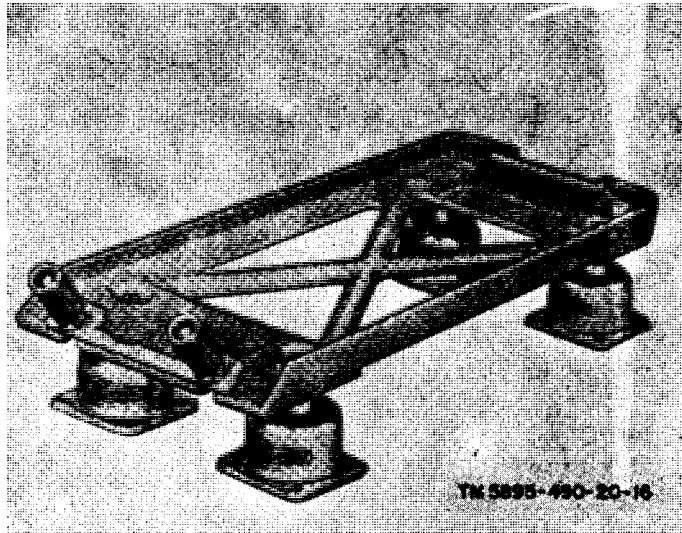

Figure 1-5. Mounting MT-3948/Apx-72.
c. The MT-3948/APX-72 (fig. 1-5) is identical to the MT-3908/APX-72 except for the addition of four isolators which are connected to the four corners of the mount.